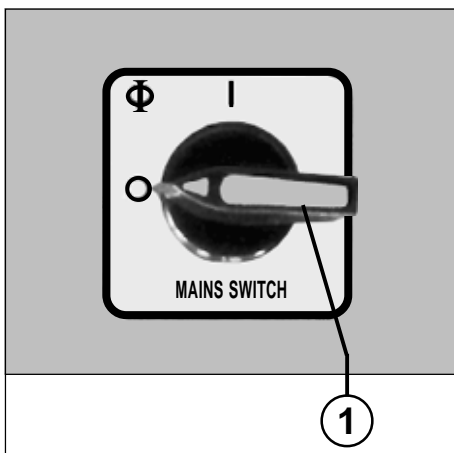

fig. 1
Be certain that the machine is turned off overnight (mains switch (1) (fig. 1) switched to „0“).